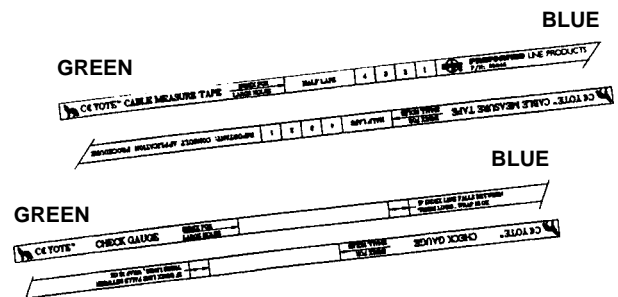

FIGURE 3 - COYOTE CABLE MEASURE TAPE
4.02 The color-coded COYOTE Cable Measure Tape is used to determine the number of half-lapped layers of LOCK-TAPE Sealant required to seal the cable in the cable entries. The blue-colored end is used to measure cables entering the outside 3/4" (19 mm) entries, while the green-colored end measures the cable entering the center 1" (25 mm) entry. The back of the Measure Tape is used to check whether the LOCK-TAPE Sealant wrap is the proper diameter to ensure a water and airtight seal. (Figure 3)